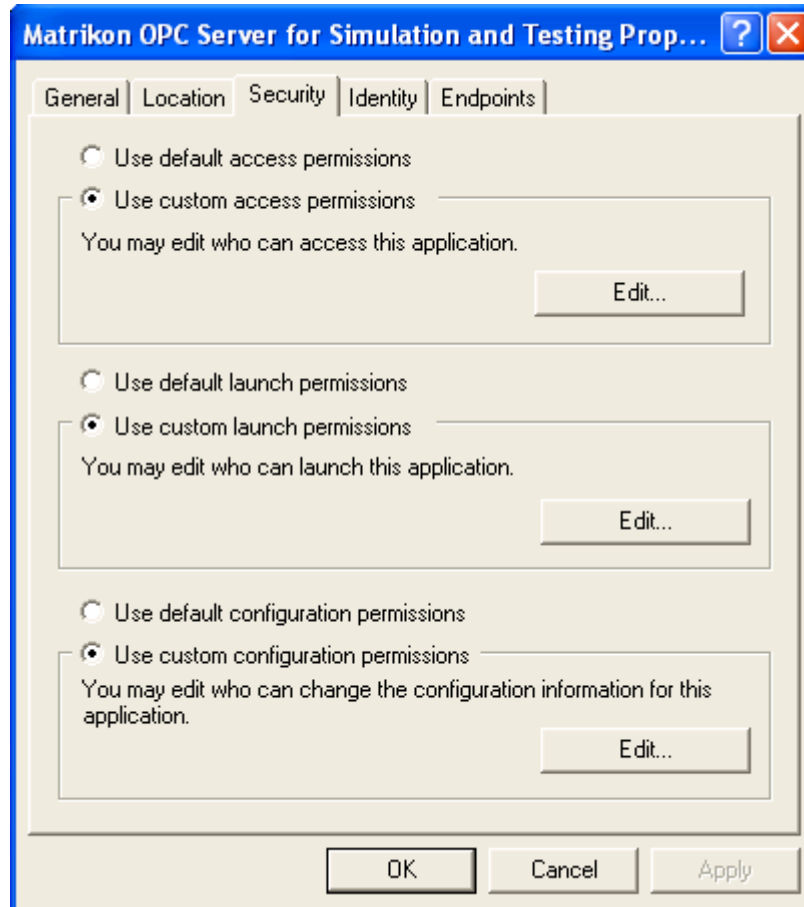

Figure 32 - Distributed COM Configuration Security Tab
5. The **Distributed COM Configuration Security** tab (Figure 32) appears.